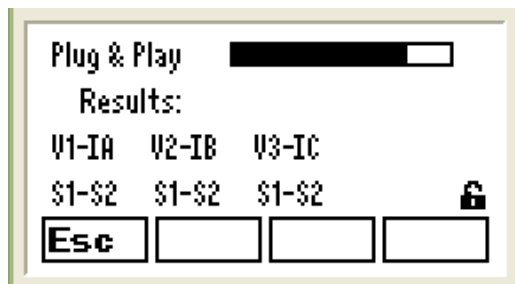
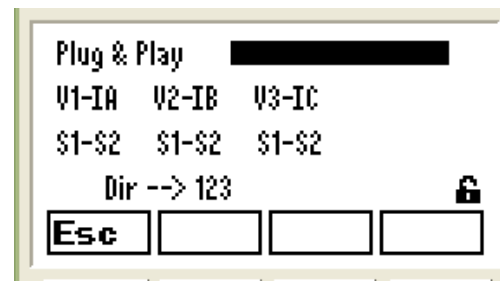

Fig.37.- Plug&Play. Phase allocation information
Fig.38.- Plug&Play. Phase allocation information
- From this point, the Plug&Play automatic setting will continue allocating the phases and the direction of current transformers, allocating each transformer to its phase, while calculating the transformer ratio, always assuming that In/5A transformers are used. The results of automatic adjustments are shown on different screens, as shown on Fig.37 to 40.
- The screen shown on Fig.37 shows information about the phase to which the current transformers have been connected (CT). If IA, IB and IC are shown together with V1, V2, V3 and all are in the S1-S2 order, each CT is connected to the correct phase and in the correct direction. However, if you have the example shown on Fig. 38, this would mean that the current in phase C has been connected instead of B and vice versa, and phase 3 secondary terminals of the CT have been inverted.